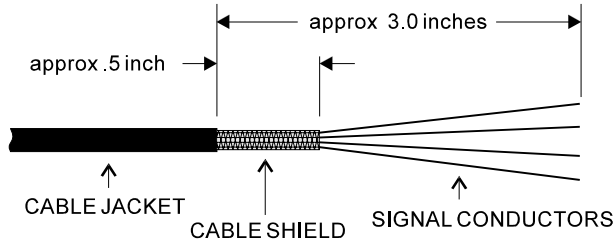

Figure 3
- 1). Strip the sensor cable as shown in Figure 3.